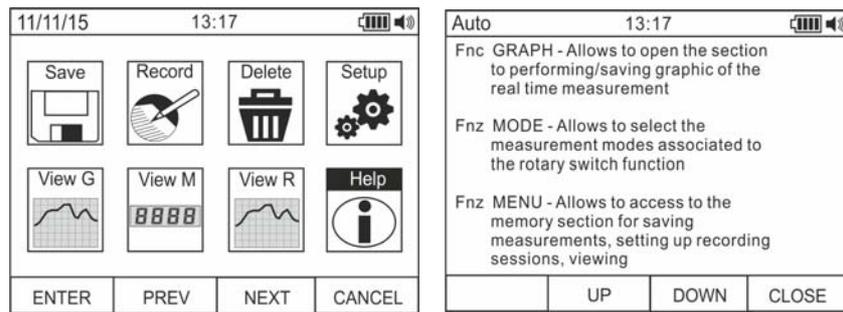

Fig. 21: Help on line on the display
40. Use the **F2** or **F3** key to select symbol "Help" and press the **F1** key (see Fig. 21).
41. Use the **F2 (UP)** or **F3 (DOWN)** to browse the pages of the context on-line help.